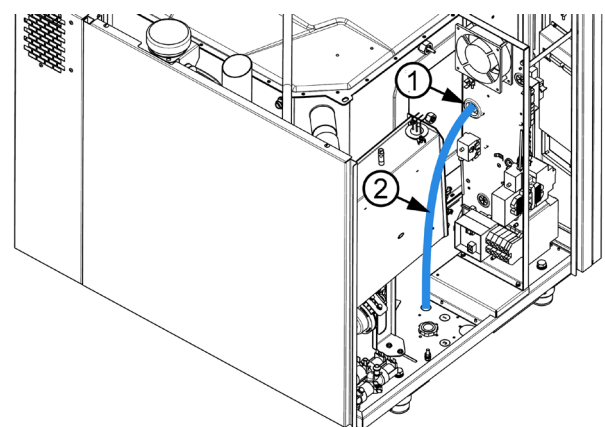

Figure 8: Threading the UTP cable through the rubber grommet
On the appliance's electrical board, next to the relay panel, there is a rubber grommet (1). Thread the UP cable through this grommet (2) and guide it towards the front of the electrical board (see fig. 8)